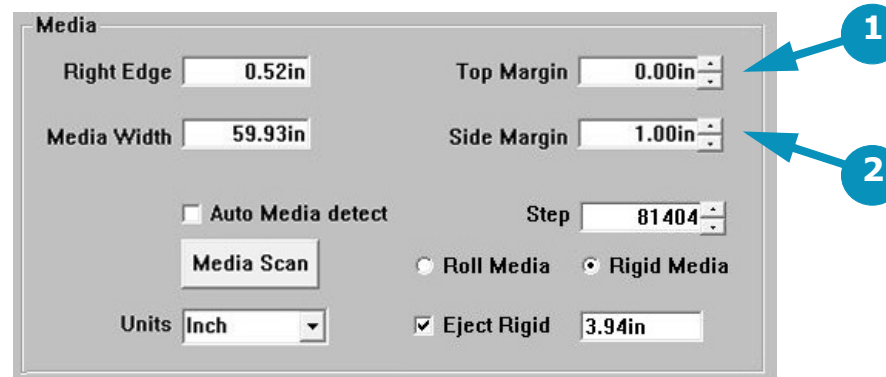

Figure 6-24: Media Box on EFI Pro 16h Control Window
1. Set the needed Top and Side Margins in the EFI Pro 16h Control window. (See Figure 6-24.)
1. Set both the Top Margin and the Side margin in the EFI Pro 16h Control window to "0". (See Figure 6-24.)